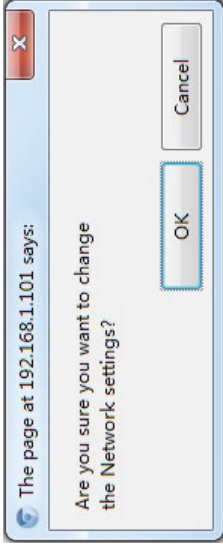

Figure 3.7 Network settings confirmation interface
5. According to the site conditions, it only needs to change <LAN IP Address> and <Remote Server IP Address> to change the settings of the IP address, <Remote Server IP Address> is the server IP address for installing air-conditioning system management software. Click <Change> button, as shown in Figure 3.7, the system prompts to confirm the information. Click <OK>, the air conditioning gateway IP address change is completed.